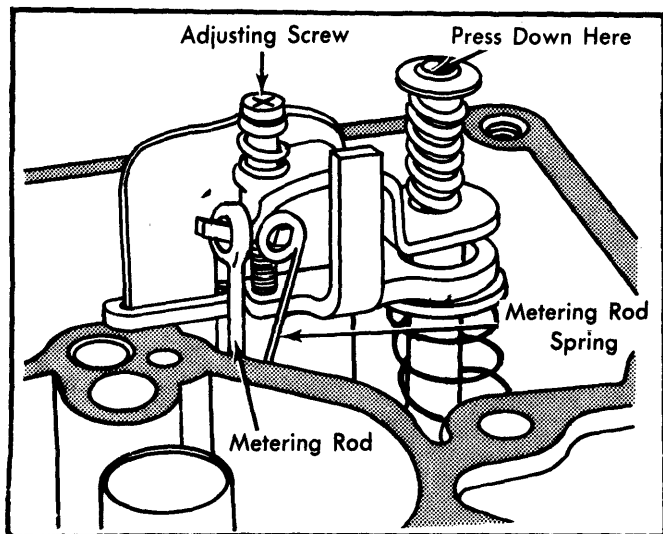

Fig. 4 Metering Rod Adjustment
3) Press down on end of pump diaphragm shaft until assembly bottoms. While holding diaphragm assembly in this position, turn rod adjustment screw counterclockwise until metering rod gently bottoms in body casting. See Fig. 4.
4) Now turn metering rod adjustment screw clockwise (IN) ONE turn for final adjustment.